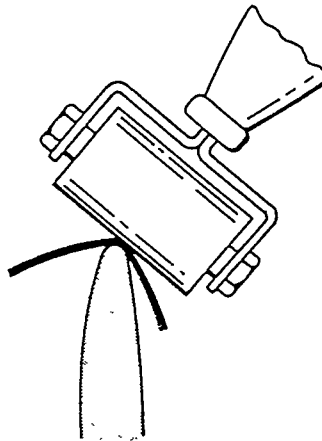

Figure 11-11. Side Rolling
h. Gradually tilting the roller, work the boot carefully over each side of the blade contour. Avoid trapping air pockets under the boot. (See Figure 11-11.)